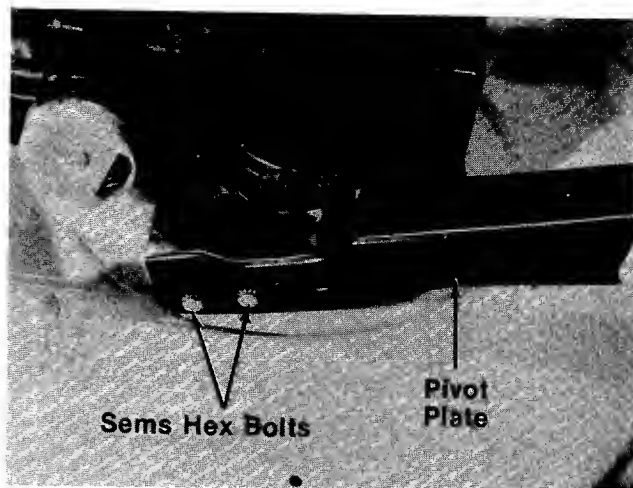

FIGURE 19.
1. Loosen (do not remove) two sems hex bolts. See figure 19.